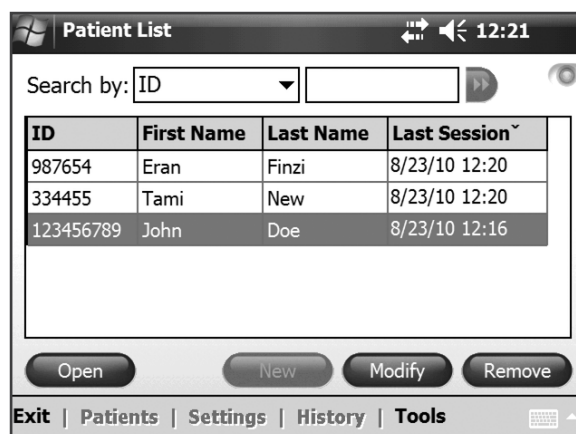

Figure 7-13: Patient List window.
3. If the login is successful, the Patient List window will open. See Figure 7-13.